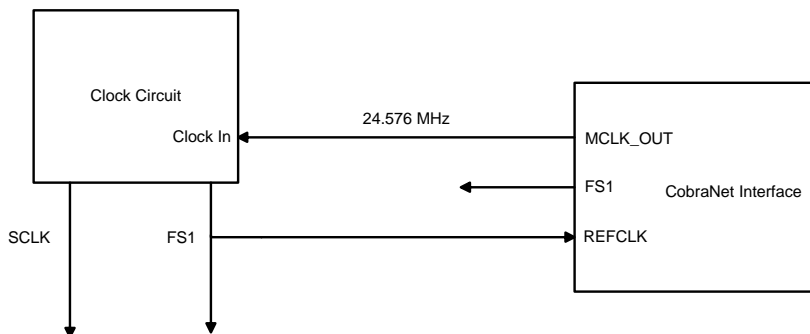

Figure 6. 0x10 Mode Typical Connections (Sync of CobraNet Clocks with External Clock Circuitry)
- **As Conductor:** MCLK, FS1, and SCLK are all generated as in 0x00 Mode. However, the REFCLK input is used to align the clock edges of the generated MCLK, insuring that the audio clocks generated externally are kept in sync with the CobraNet interface's audio clocks. This mode does not alter the clock frequency and implies that the REFCLK input should be derived from the MCLK_OUT supplied by the CobraNet interface (see Figure 6).